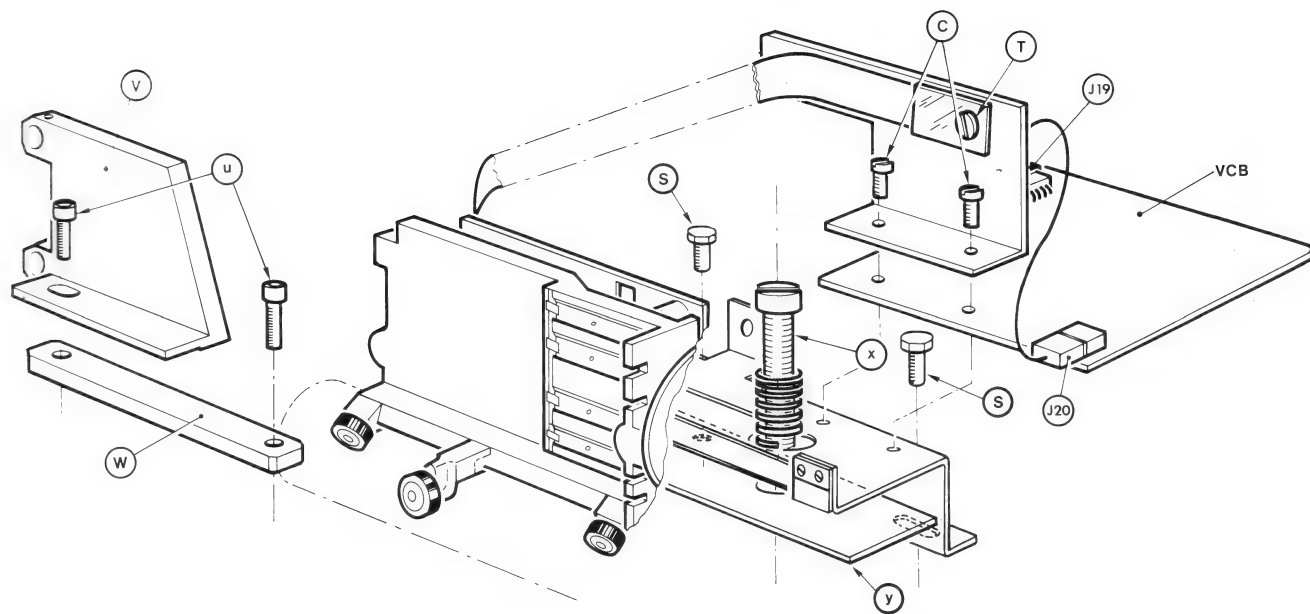

Figure 4.2.9e
Disassembly (figure 4.2.9e)
- Disconnect J19 - J20 connectors (figure 4.2.9e)
- Unscrew the screw T and screws S (see figure 4.2.9e) and remove the assembly.